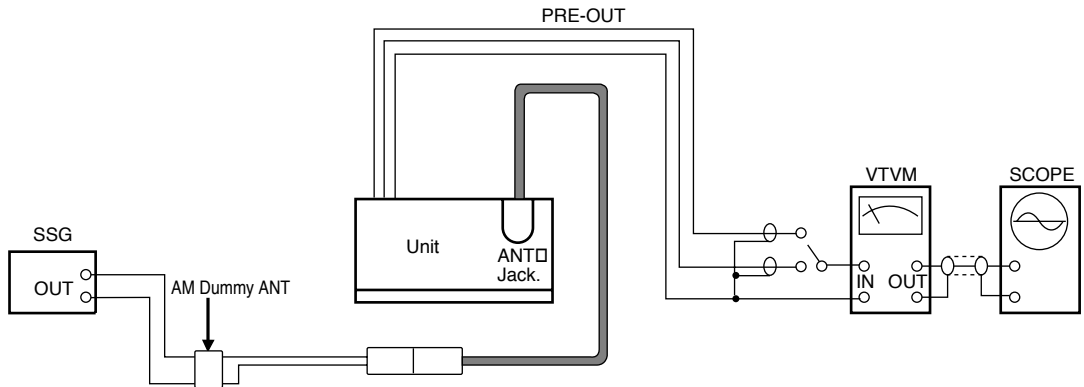

Figure 5.
2. Connect as shown in figure 5.